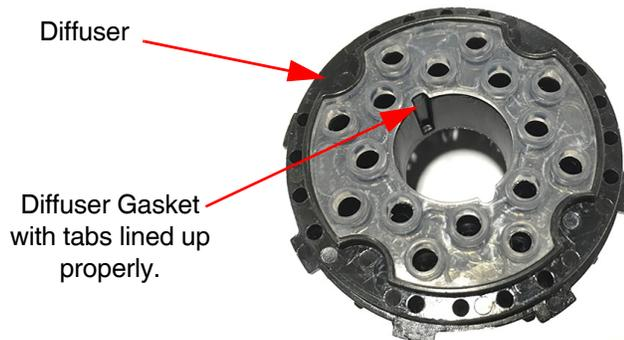

Figure 71
- First, make sure the **diffuser gasket** is seated properly and is in the correct position on top of the **diffuser** as shown in Figure 71. Then, push the diffuser on to the nozzle base so that the diffuser gasket is against the nozzle base. See Figure 70.